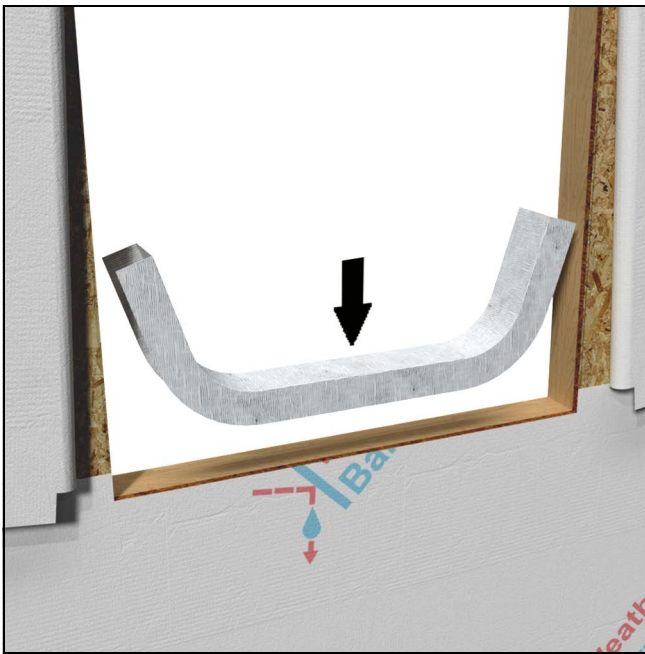

Figure 19
4. **TYPE III Sill Pan Flash:** Apply self sealing flexible membrane slope. See Figure 19.